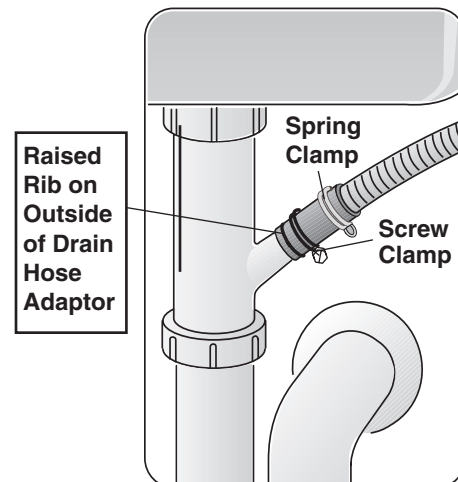

Figure 23
- 3 Secure the connection with the Spring Clamp (see **Figure 23**).
- 4 Use the Screw Clamp to attach the Rubber Drain Hose Adaptor to the house plumbing (see **Figure 23**).